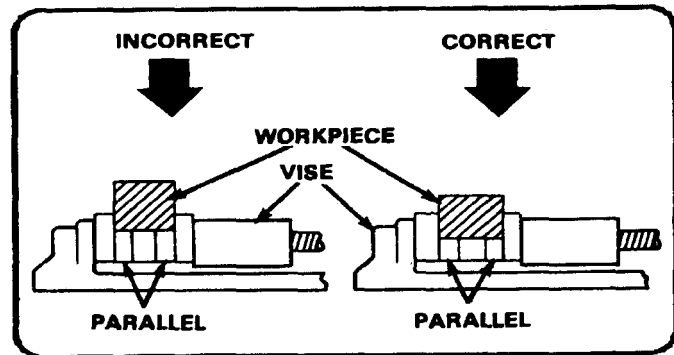

Figure 4-26. Parallels being used to support a workpiece.
- Parallels are precision ground rectangular bars used to keep the workpiece parallel with the worktable when the workpiece must be raised above the worktable surface, such as when drilling completely through a workpiece (Figure 4-26). Parallels come in matched sets and can be solid or adjustable as needed.